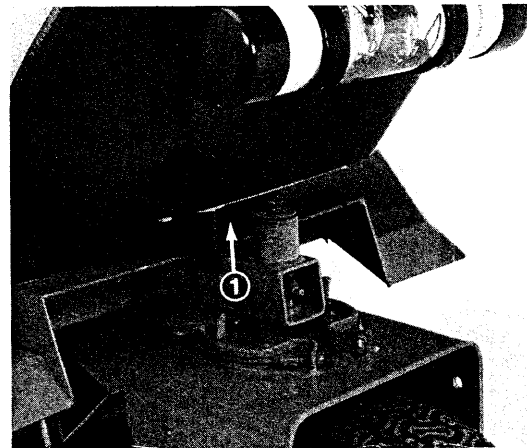

Figure 4
2. Connect switch cable to interlock cable (Fig. 4).